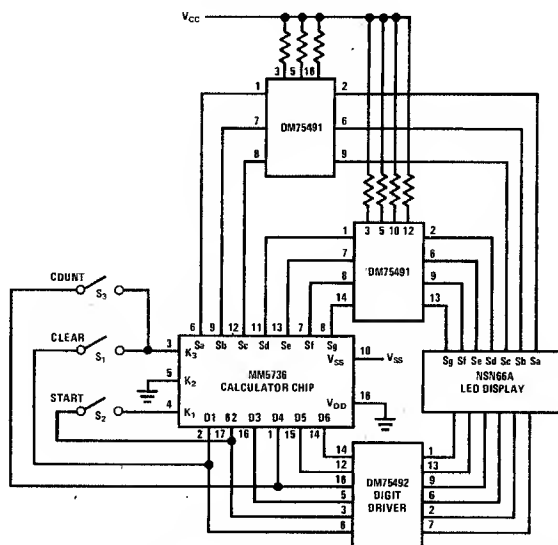

FIGURE 4. Counter with Segment Drivers and External Current Limiting Resistors
*Figure 4* again indicates how to build this same counter but this time using different segment drivers. In this circuit, the current drive to the LED's is determined by the external current limiting resistors. Here again the current to the display is supplied by  $V_{CC}$  which can be less than  $V_{SS}$ , again resulting in a power saving and the ability to drive large LED displays.